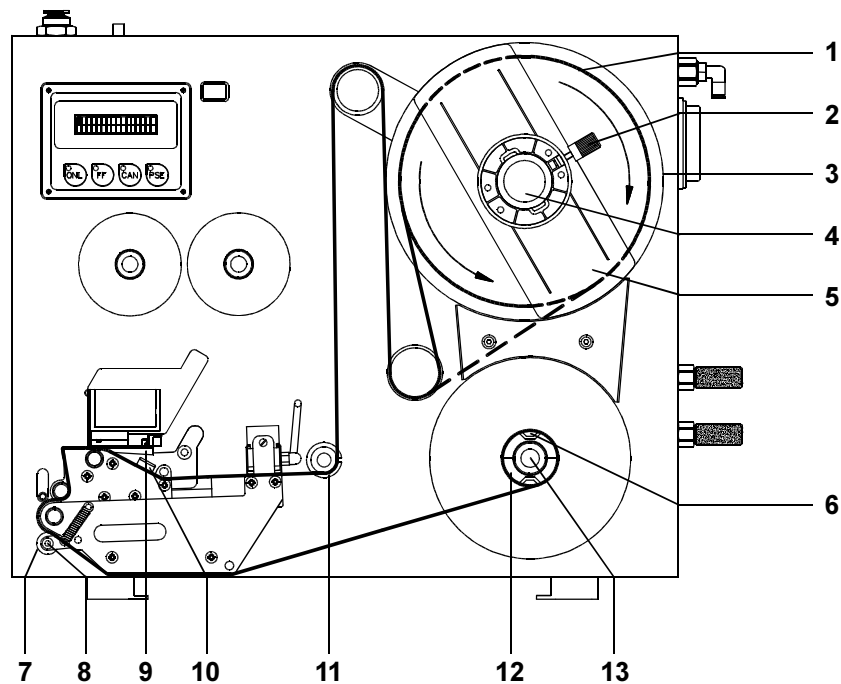

Fig. 7b Media loading
1. Place the label roll (1) onto the prepared media supply hub (4) and slide it down against the wind plate (3). The solid line represents the feed path of outside-rolled labels, the broken line of inside-rolled labels.
2. Put the flange (5) on the supply hub (4), slide it down against the label roll (1) and fix it at the supply hub by tightening the knurled knob (2).
3. Slide the media guide (11) outwards as far as possible.
4. Unlock the transport locking roller (7) by pressing the knurled knob (8) downwards.
5. Unroll a length of label stock from the media roll and feed it first to the printhead (9) as shown in figure 7b.
7. Take off all labels from the outstanding liner, and feed the liner as shown in figure 7b to the internal rewriter (12).
8. Slide the media strip under the rewriter clamps (6) to the wind plate. Hold the rewriter and turn the knurled knob (13) clockwise. That way the label strip will be fixed at the rewriter.
9. Turn the rewriter (12) clockwise for tightening the label strip.
10. Press the knurled knob (8) upwards to close the transport system.
11. Slide down the guide (11) against the upper edge of the label strip.